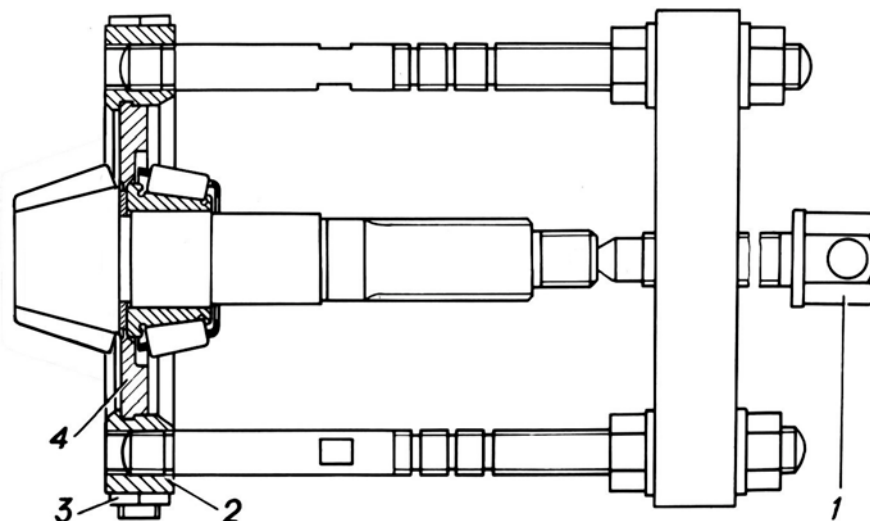

Fig. 3.78. Bearing removal from the final drive gear: 1 – puller screw; 2 – support; 3 – nut; 4 – insert
- remove the bearing spacer bushing and press the drive gear rear bearing inner race out using the puller as shown in Fig. 3.78. To fit insert 4 shoulders tightly between the bearing cage and gear, squeeze supports 2 with bolts and nuts 3. Remove the bearing inner race by turning the screw 1;